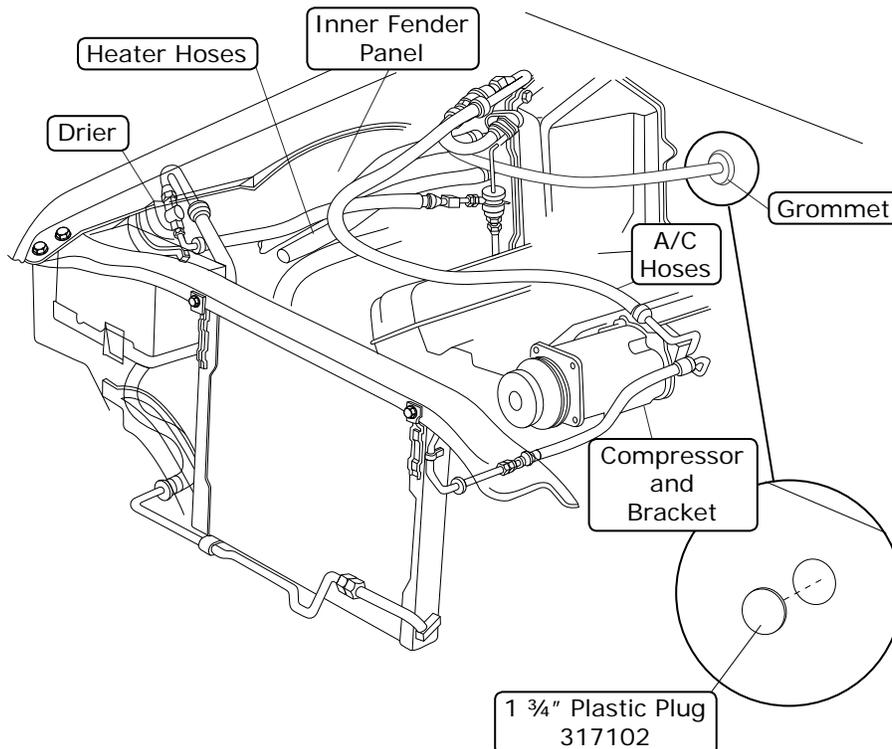

Figure 1
7. Remove OEM evaporator/blower motor assembly (discard) (See Figure 1, below). **NOTE:** To remove the evaporator and blower assembly (under hood) and the air distribution system (under dash), the factory manual recommends doing the following: Remove right lower rocker molding. Remove fender attaching bolts. Remove skirt to fender and skirt to reinforcement screws. Pull out on lower portion of fender, moving the skirt away from the fender flange and firewall. Block the skirt with a 2" x 4" block of wood. To avoid damage to paint and sheet metal, and for ease of removal and replacement of components, Vintage Air recommends that the right fender be removed, and the inner panel lowered (See Figure 1, below).